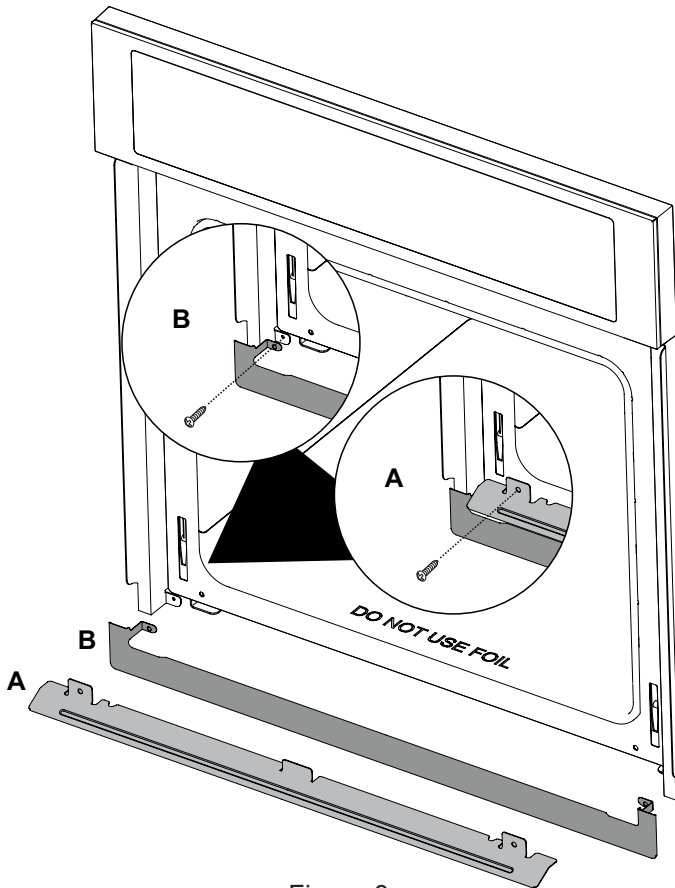

Figure 8
A. Place the color matched trim (B) in place as shown in Figure 8. Line up screw locations and attach both ends.
B. Place the air diverter (A) in place as shown. Line up screw locations and attach both ends.